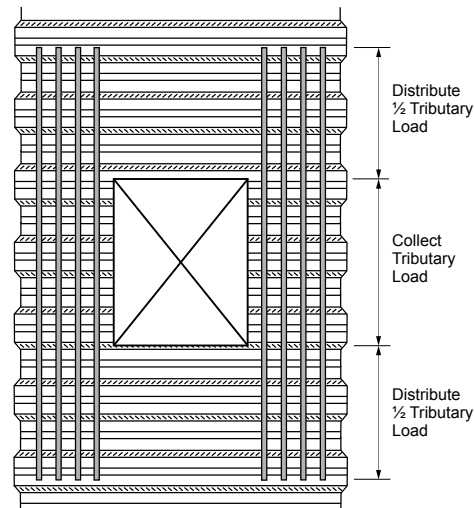

Fig. 1
- **Cut-out method:** an opening of 150mm or less generally does not require specific design. Deck stiffening may be required when using the cut-out method. It is recommended that for small openings between 150-300mm using the cut-out method will incorporate reinforcing via stiffening angles, tube steel or steel channels running perpendicular to the Tray-dec sheets. The reinforcing shall extend at least  $\frac{1}{2}$  the opening width past the opening on each side in the transverse direction. The reinforcing shall be placed at least up to  $\frac{1}{2}$  the opening width past the opening on each side in longitudinal direction (fig. 1).
- **Deck-over method:** recommended for these applications, where additional reinforcing is to be used in the transverse direction of the Tray-dec sheets. Load distribution shall be like the cut-out method for small penetrations as shown in fig. 1.